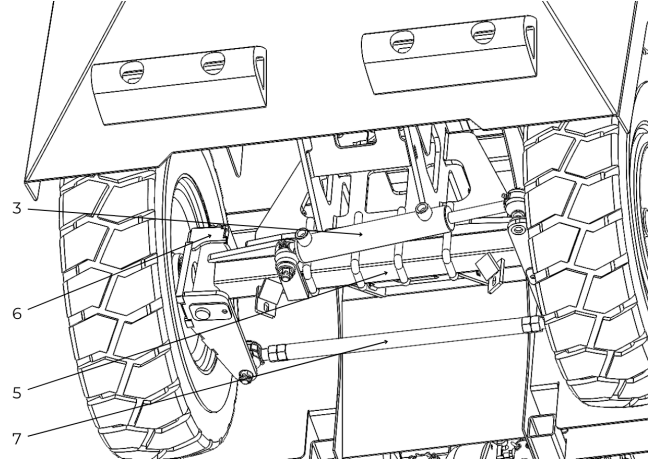

Figure 34. General Steering Inspection.
- Steering cylinder (3). (See Figure 34)
- Axle beam (5). (See Figure 34)
- Right and left knuckles (6). (See Figure 34)
- Tie rod (7). (See Figure 34)